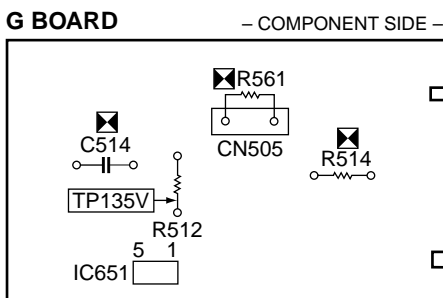

Fig. 4-2
5. If anode voltage is 30kV or lower, replace C514 of 390PF/2kV with that of 100PF/2kV, and check if the voltage is within the standard range. **(Fig.4-2)**
1. Repeat steps ① ~ ⑦ as above.
3. If hold down voltage is 32.5kV or lower, mount a resistor (220k $\Omega$ , 1/4W : RN) onto R561 and check again if the hold-down voltage is within the standard range. **(Fig.4-2)**
5. If step 4 is not satisfied, replace IC651 and repeat above steps. **(Fig.4-2)**
3. Connect a 220k $\Omega$  variable resistor, across pin ③ and pin ⑤ of IC651 set to maximum value.
6. Gradually turn the 220k $\Omega$  variable resistor, and check if OVP works properly when the voltage of TP135V is between 139.0 ~ 151.5V. **(Fig.4-2)**